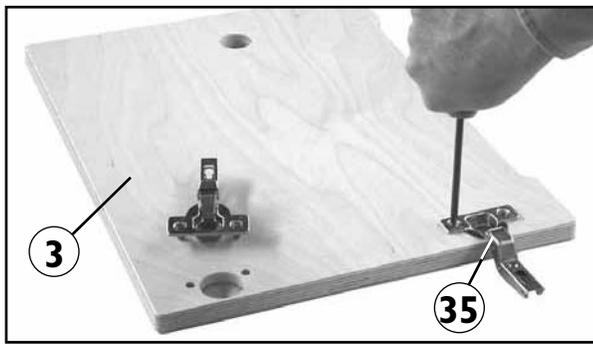

Fig. 1
1. Press the hinge “cups” (35) into the large bore in the door (3). **Fig 1**. With a Phillips screwdriver, tighten the integral hinge cams clockwise approximately 1/4 turn. Do not over tighten the cams.